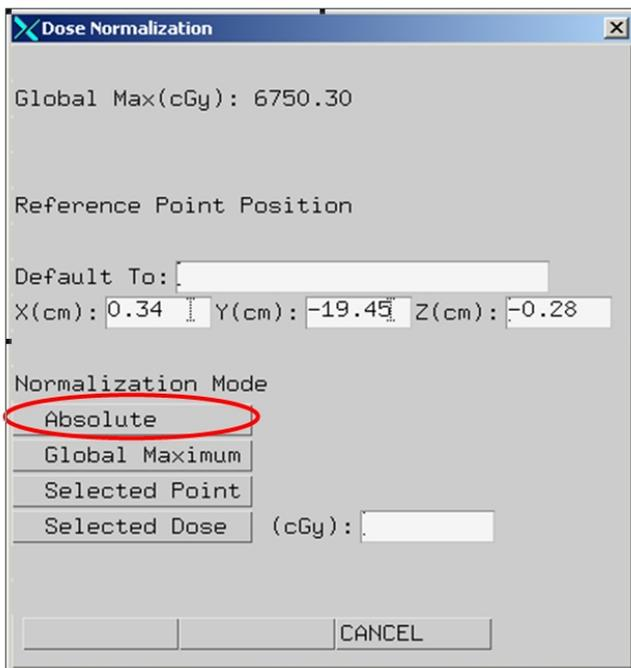

Figure 11 - Setting absolute dose values in the "Dose | Normalization" dialog box
- Setting absolute dose values in the dose matrix to be exported (Figure 11);